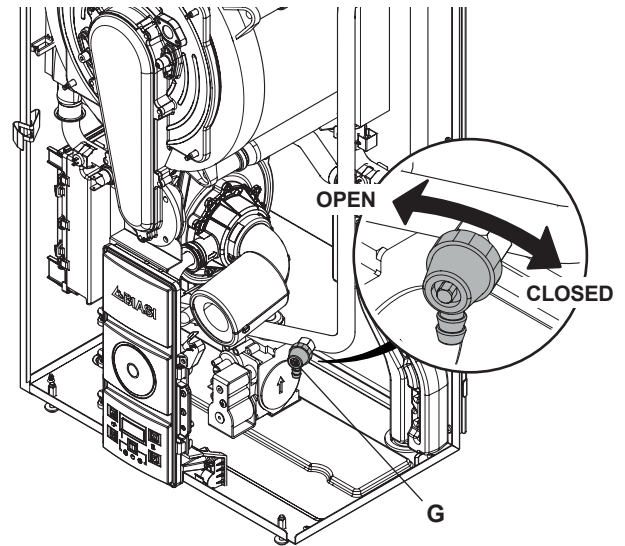

Figure 2.10
- 3 Loosen the central heating drain cock "G" (Figure 2.10) until the boiler is completely emptied.